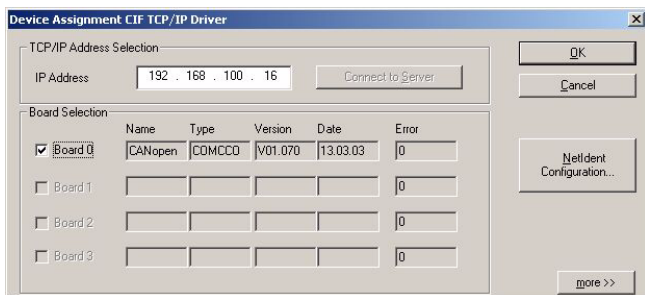

Figure 24 Device assignment CIF TCP/IP driver
- Correct the IP address, if required (see Figure 24).